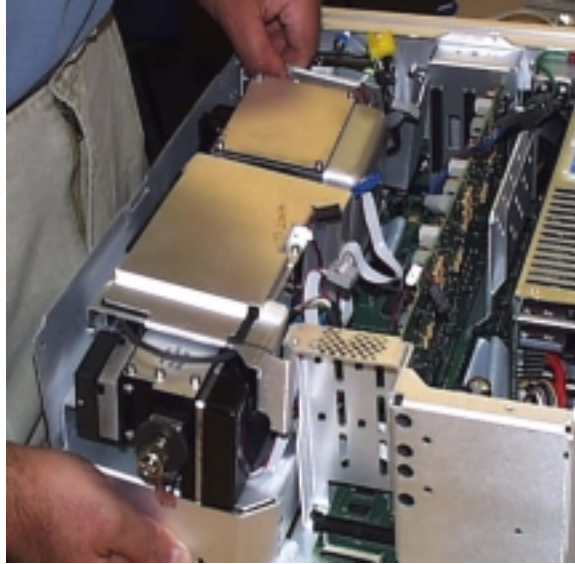

Figure 3-68. Removing the optical assembly
- 10** Lift up the outside edge of the optical assembly a few degrees making sure not to put tension on the Trans-Z Analog Out connector that is still connected. See Figure 3-68 below.
- 10 Lift up the outside edge of the optical assembly a few degrees making sure not to put tension on the Trans-Z Analog Out connector that is still connected. See Figure 3-68 below.
- 11 Lift up the outside edge of the optical assembly a few degrees making sure not to put tension on the Trans-Z Analog Out connector that is still connected. See Figure 3-68 below.